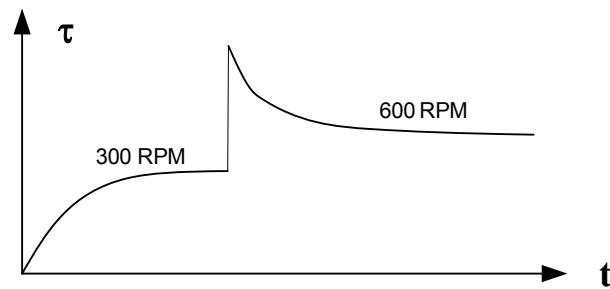

Figure 1-1: Behavior of a rheopectic fluid
From Figure 1-1 one ton of mud pr. ton will produce 15.9 m3 of 15 cP mud.
c) From Figure 1-1 we see that a viscosity of max. 50 cP, will correspond to 7.5 w % Bentonite.